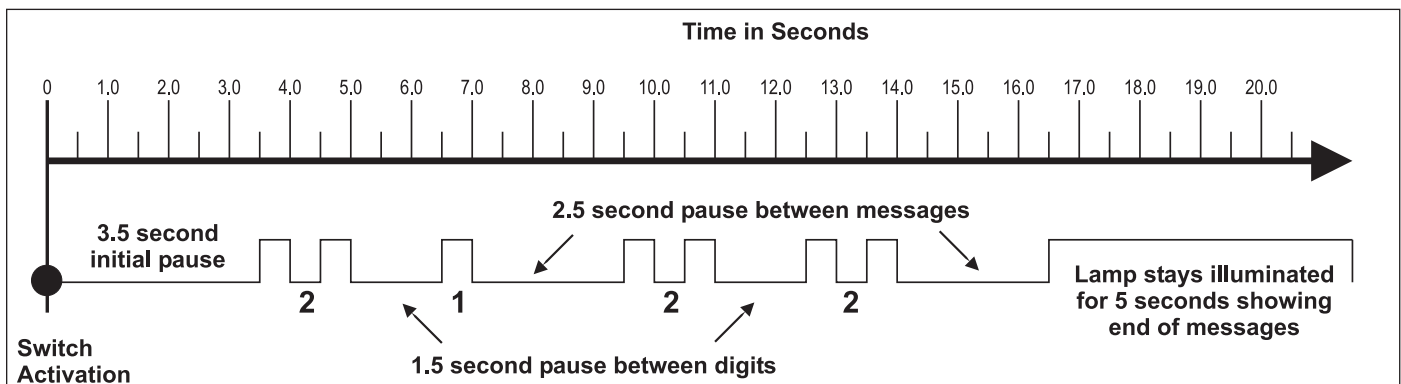

FIGURE 15 - EXAMPLE OF A BLINK CODE MESSAGE
2. For the Bendix ESP EC-80 Controller to recognize that the switch is activated “on,” the technician must press for at least 0.1 seconds, but less than five (5) seconds. (If the switch is held for more than five (5) seconds, the ECU will register a malfunctioning switch.)
3. Pauses between pressing the switch when a sequence is required, (e.g. when changing mode) must not be longer than two (2) seconds.
4. After a pause of three-and-a-half (3.5) seconds, the ECU will begin responding with output information blinks. See Figure 15 for an example.